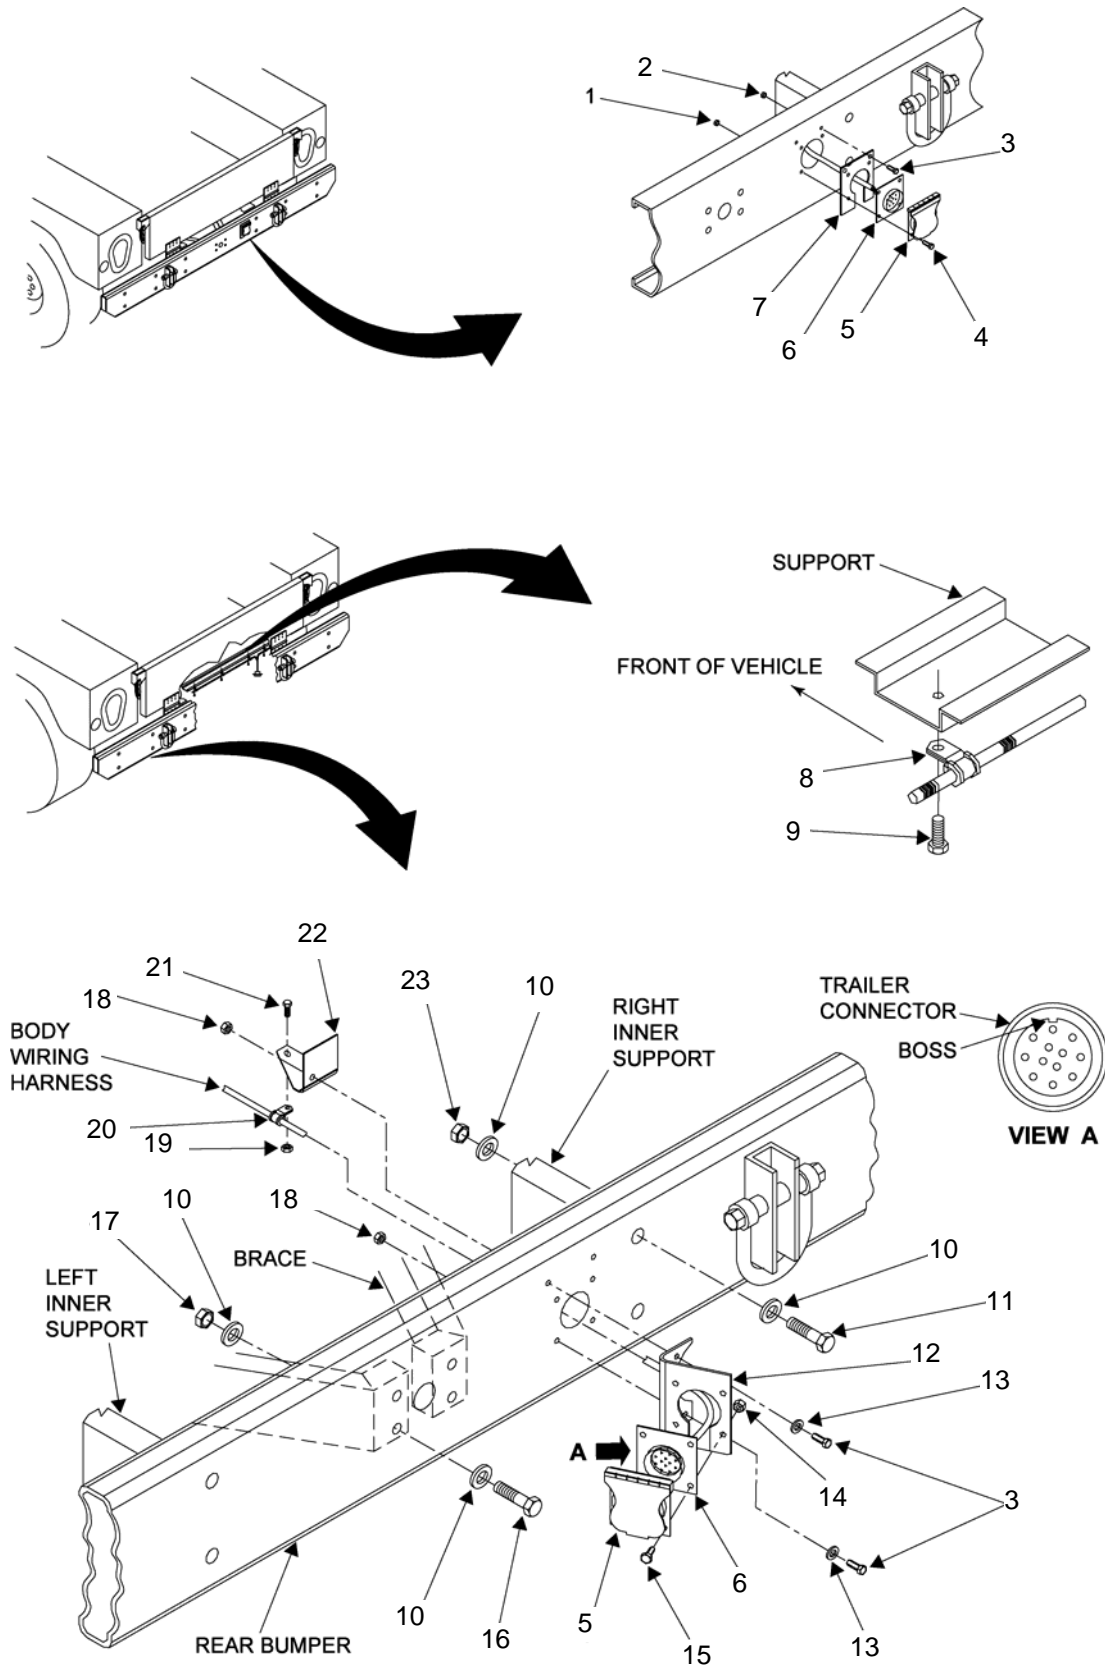

Figure 2. Pintle Extension Kit Installation Preparation.
Steps 2 through 10 will refer to Figure 2. Pintle Extension Kit Installation Preparation.
2. Remove 4 nuts (figure 2, item 1) and screws (figure 2, item 4) securing cover assembly (figure 2, item 5) and trailer connector (figure 2, item 6) to receptacle mounting bracket (figure 2, item 7) and rear bumper.
3. Remove 2 nuts (figure 2, item 2) and screws (figure 2, item 3) securing receptacle mounting bracket (figure 2, item 7) to rear bumper.
4. Remove 4 screws (figure 2, item 9) and clamps (figure 2, item 8) securing body wiring harness to vehicle support.
5. Secure body wiring harness to support with 2 screws (figure 2, item 9) and clamps (figure 2, item 8). Tighten screws to 8 ft. lbs.
6. Remove 4 screws (figure 2, item 11), 8 washers (figure 2, item 10), and 4 nuts (figure 2, item 23) securing rear bumper to right and left inner supports.
7. Secure braces to rear bumper (in pintle area) with 4 screws (figure 2, item 16), 8 existing washers (figure 2, item 10) from step 1, and 4 nuts (figure 2, item 17). Tighten nuts to 90 ft. lbs.
8. Secure clamp bracket (figure 2, item 22) and receptacle bracket (figure 2, item 12) to rear bumper with 2 existing screws (figure 2, item 3), washers (figure 2, item 13), and nuts (figure 2, item 18). Tighten nuts to 8 ft. lbs.
9. Secure trailer connector (figure 2, item 6) and cover assembly (figure 2, item 5) to receptacle bracket (figure 2, item 12) with 4 screws (figure 2, item 15) and nuts (figure 2, item 14). Ensure trailer connector boss is located at the 12 o'clock position. Tighten nuts to 8 ft. lbs.
10. Secure body wiring harness to clamp bracket (figure 2, item 22) with clamp (figure 2, item 20), screw (figure 2, item 21), and nut (figure 2, item 19). Tighten nut to 8 ft. lbs.